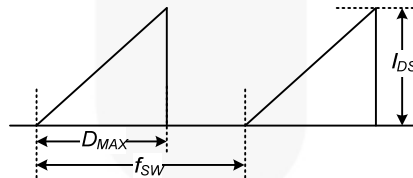

Figure 4. Repetitive Peak Switching Current
6. Repetitive peak switching current when the inductive load is assumed: Limited by maximum duty ( $D_{MAX}=0.74$ ) and junction temperature (see Figure 4).